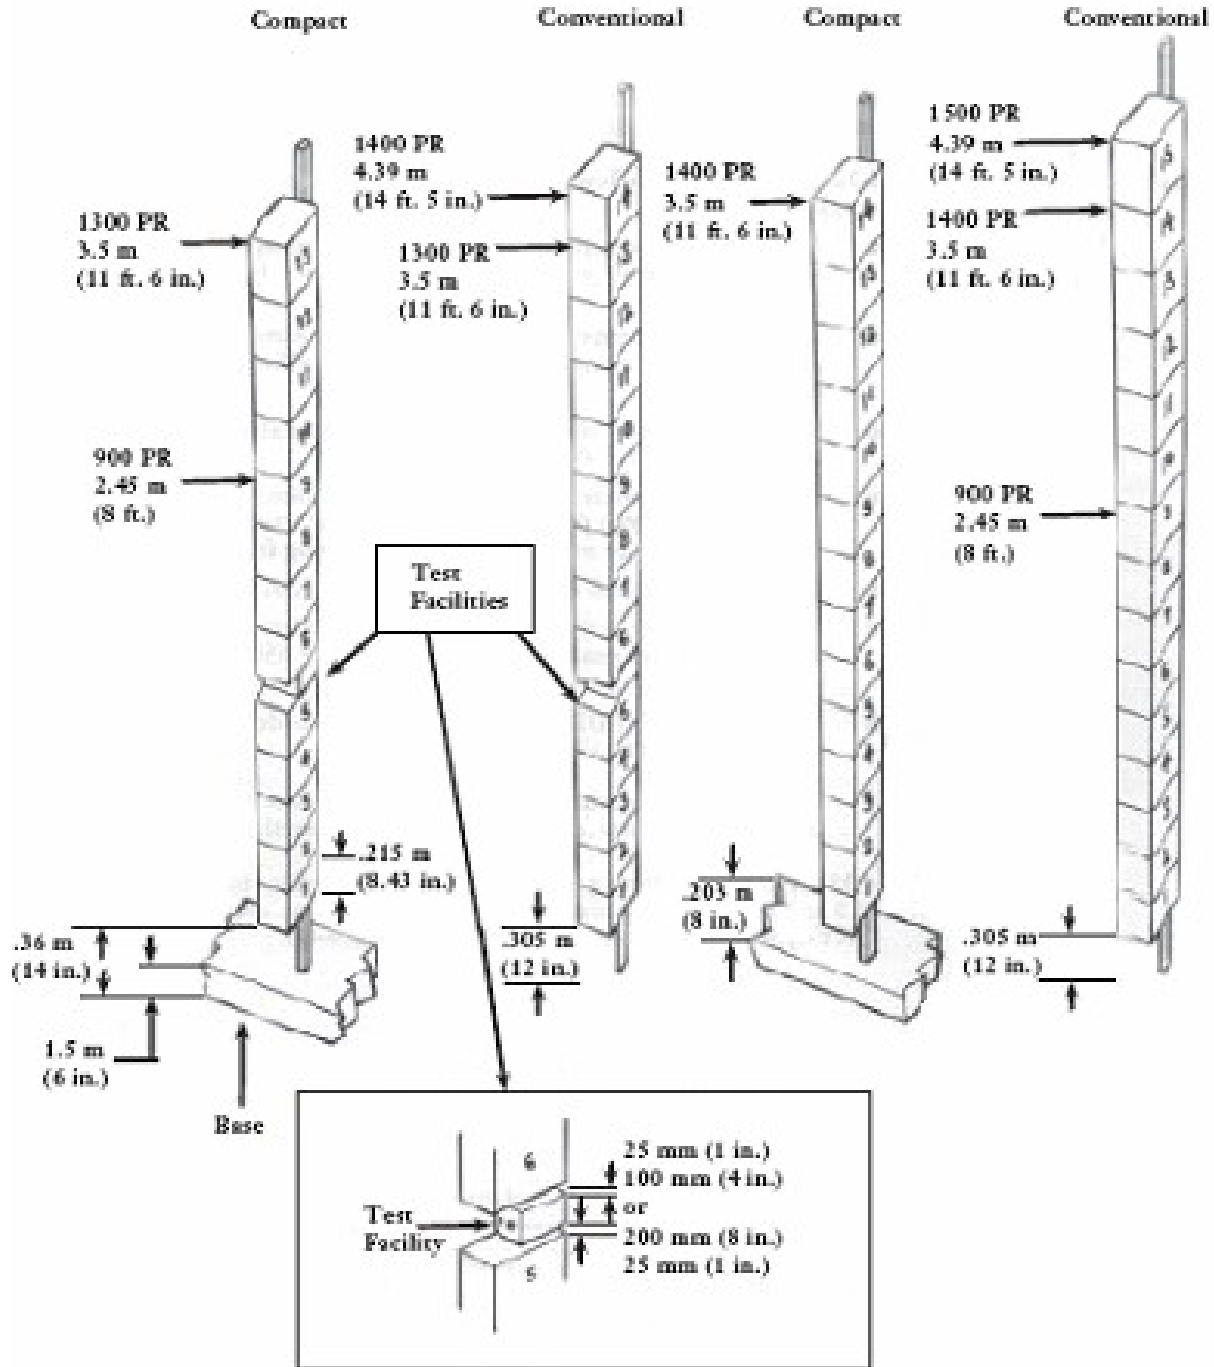

Figure 7 - Connector Mounting Arrangements
NOTE: For distance of first MPC from floor or ladder guard rail, see Figure 7 and Table 3.
- Compact (PDF) 356 mm (14 in.) from floor or 203 mm (8 in.) from ladder guard rail (Figure 7).
- Conventional (PDF) 305 mm (12 in.) from floor (Figure 7).